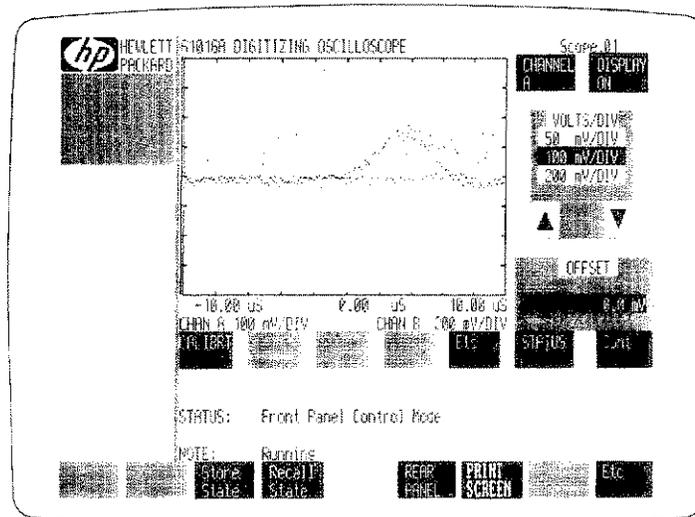

Figure 2-6. Label 4 - The Calibration Scopekey
Step 6 - You are now at the last level of Scopekeys (see Figure 2-6). By selecting CALIBRT you can start immediate execution of the self-calibration routine. When calibration is completed, the results are displayed.